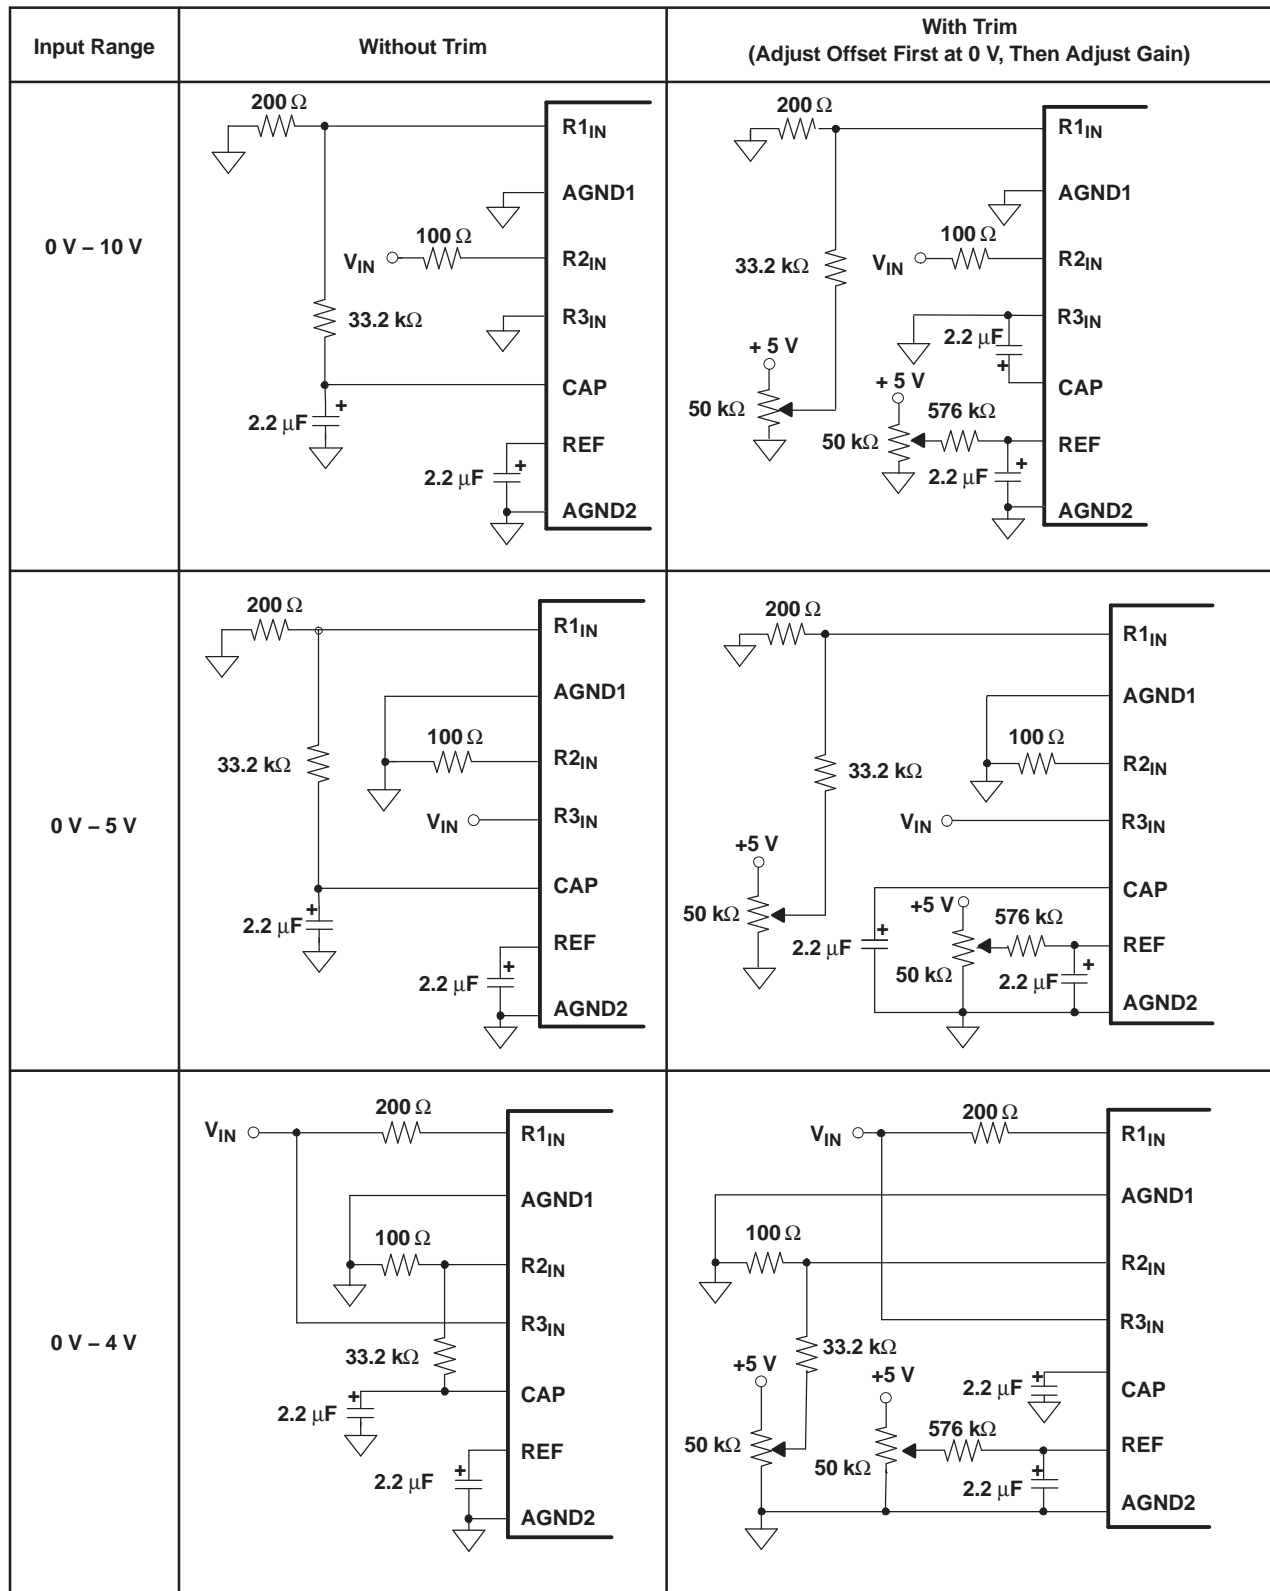

Figure 30. Offset/Gain Circuits for Unipolar Input Ranges
The ADS8509 has six analog input ranges as shown in Table 2. The offset and gain specifications are factory calibrated with 0.1%, 0.25-W, external resistors as shown in Figure 30 and Figure 31. The external resistors can be omitted if larger gain and offset errors are acceptable or if using software calibration. The hardware trim circuitry shown in Figure 30 and Figure 31 can reduce the errors to zero.
**Table 2. Input Range Connections (See Figure 30 and Figure 31 for Complete Information)**